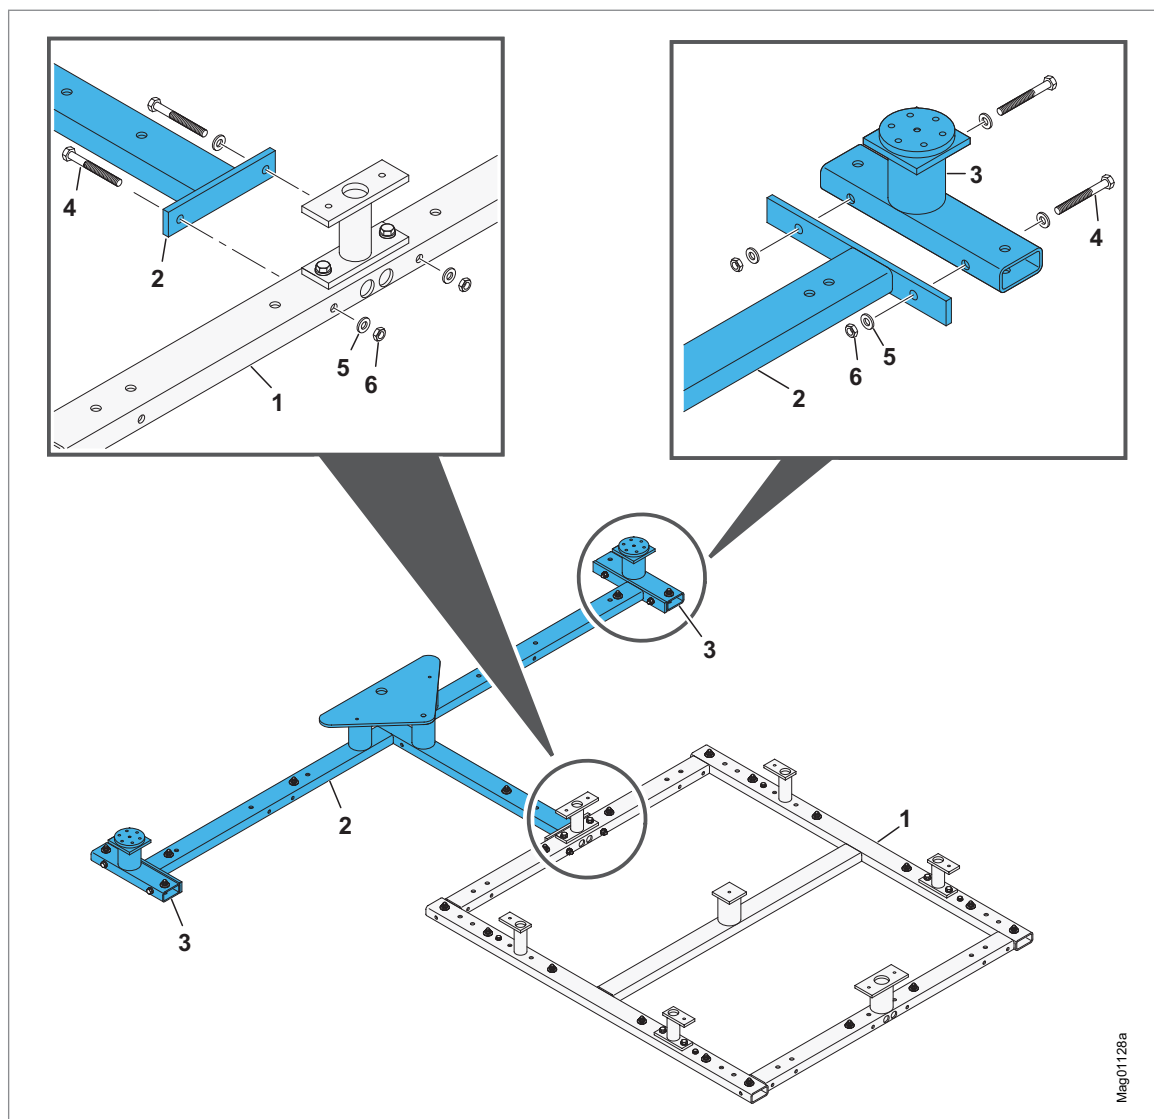

Fig. 15: Assembling the base frame FURA-B
1. Assemble the base frame according to the figure "Fig. 15".